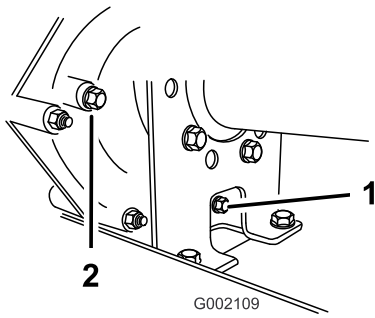
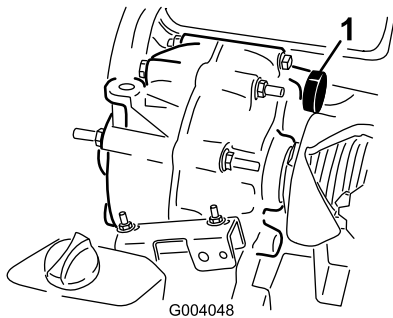

Figure 41
Figure 42
2. Remove the drain plug from the right side of the reservoir (Figure 41) and let the fluid flow into a drain pan. Install and tighten the plug when the fluid stops draining.
3. Fill the reservoir (Figure 42) with approximately 1-1/2 qt. (1.4 liters) of SAE 10W30 motor oil or until the oil level is at the bottom of the level indicator hole (Figure 41).